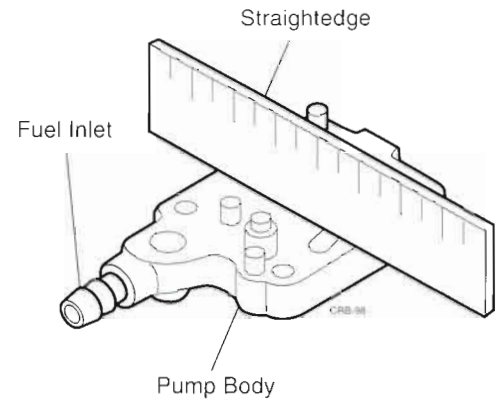

Figure 3.33 Checking the Pump Body Mating Surfaces
- Use a straightedge to check the pump body mating surfaces (Figure 3.33).